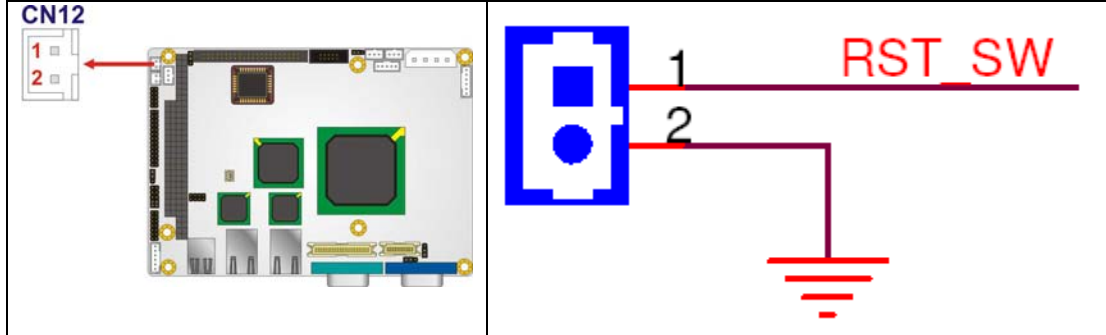

Figure 4-20: Reset Button Connector Locations
- CN Location:** See **Figure 4-20**